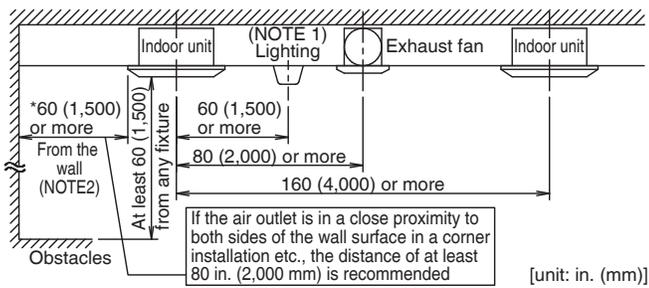

Fig. 2
- Any vents, light fixtures, or other appliances which may disturb the airflow might soil the ceiling if too close, so follow **Fig. 2** when installing.